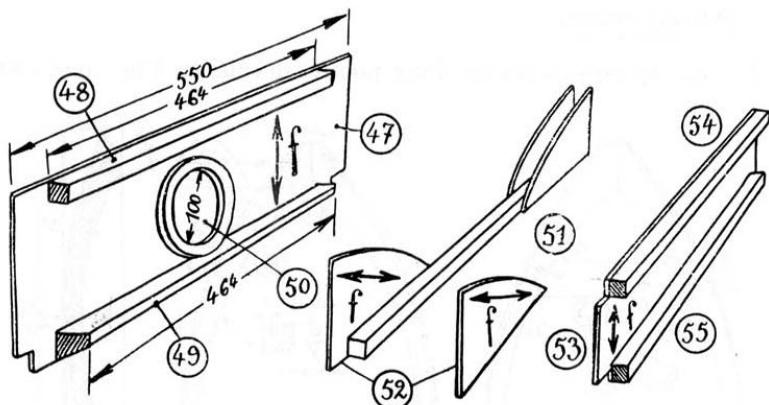

Figure 3.9: Front panel joining sides
The front flanges ⑬ are now joined by the panel ⑰ (fig. 3.9), cut so that its cross member ⑮ fits on the shim ⑯, and its crosspiece ⑯ at the bottom of the tabs ⑬ so that cross members and flanges are flush with the longerons ⑫. The height of the panel ⑰ will be determined in place. Do not forget that the hole ⑰ is reinforced with a ring. File away what could interfere with the flanges ⑬.